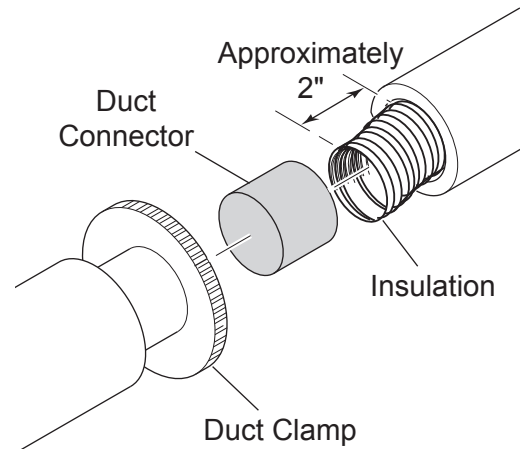

Figure 35 - Installing Duct Connector 403
7. If the duct is the insulated type, push the insulation back from one end of the duct approximately 2". See Figure 35.